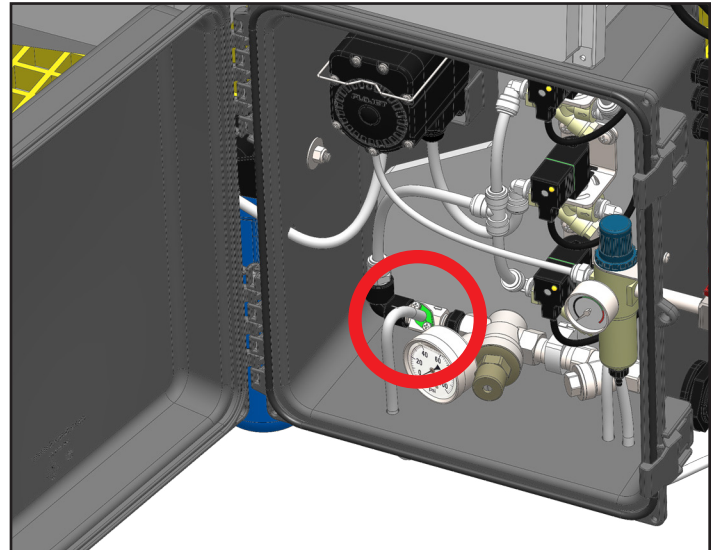

Fig. 7.1: Venturi DEMA Rocket Injector location
- When complete, re-connect solution lines to green hose barb of the Venturi Injector located in plumbing enclosure [Figure 7.1].